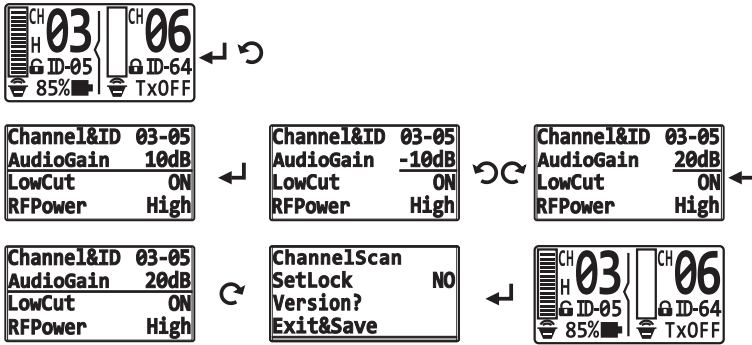

Fig. 20
4. Setting Audio Gain, see Fig. 20: